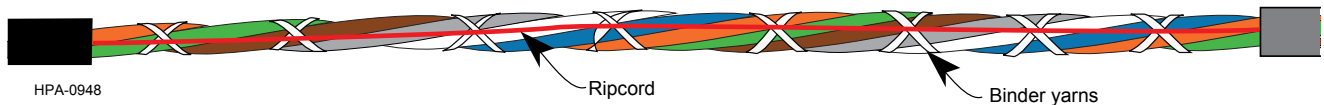

Figure 16
Step 5: With your fingers, remove the 6 in (15.25 cm) section of outer jacket to access the ripcords and yarns (Figure 16).